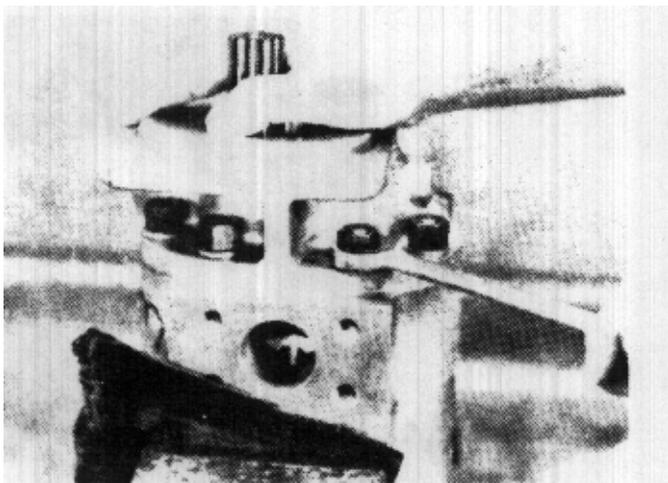

FIGURE 45
3. Place pump in machinist vise securely, shaft up, using a clean block of wood between the flats on each side and the jaws of the vise. This keeps from marring the machined surface of the pump and causing leakage at the port connectors. (Figure 45)